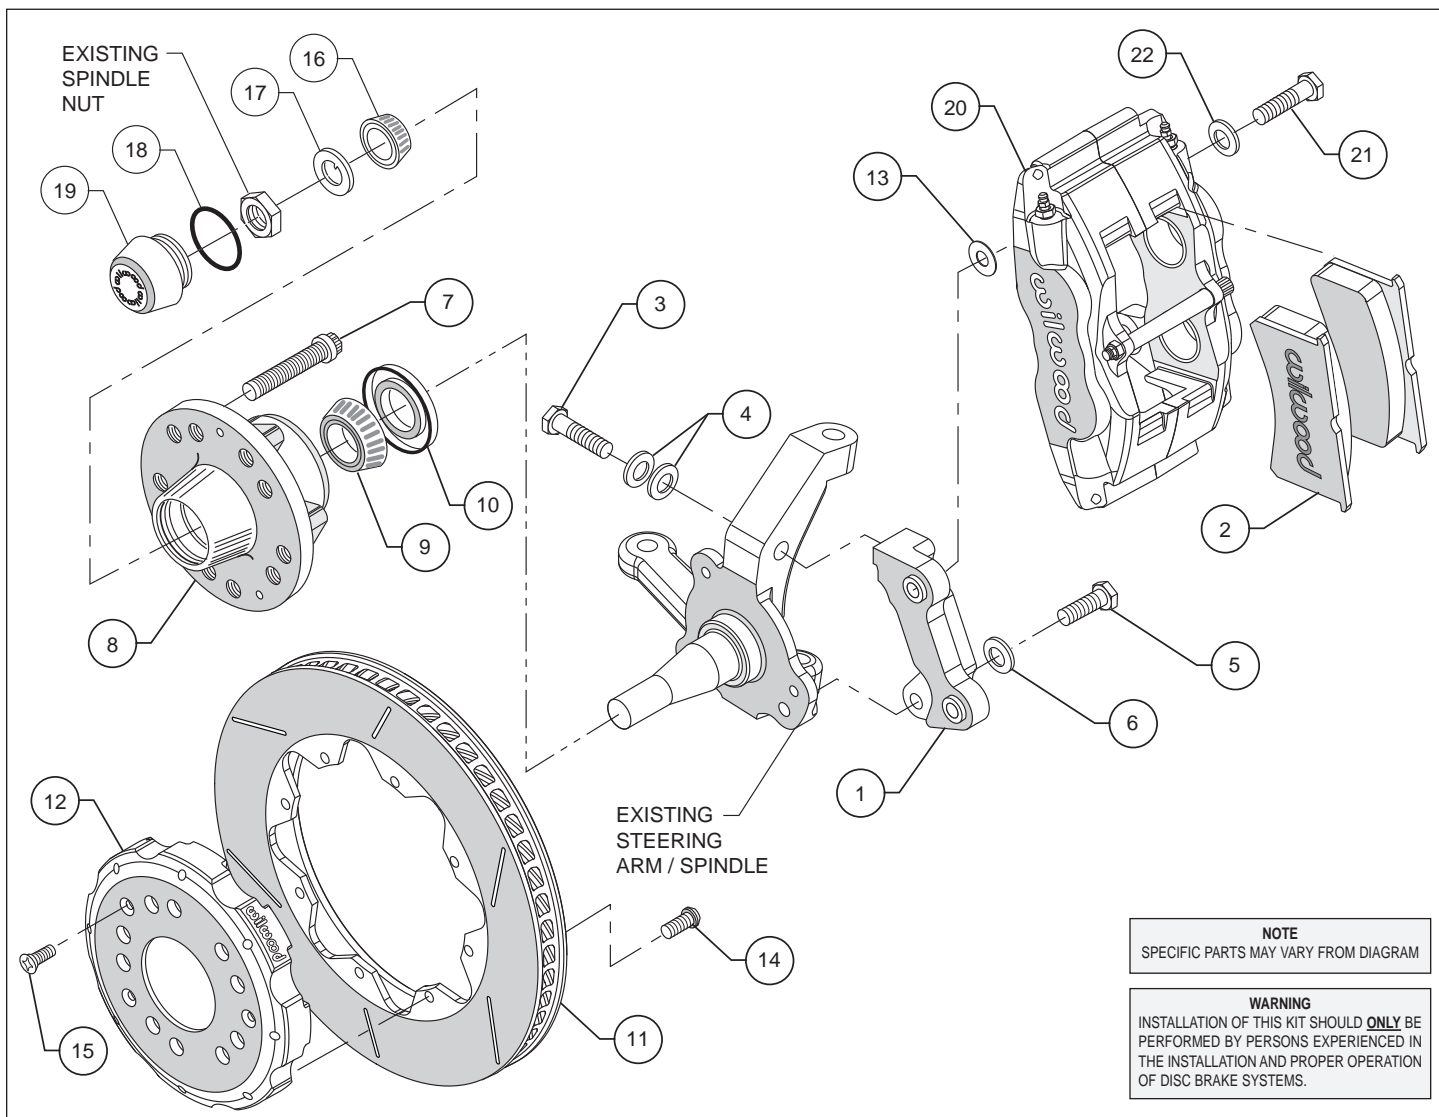
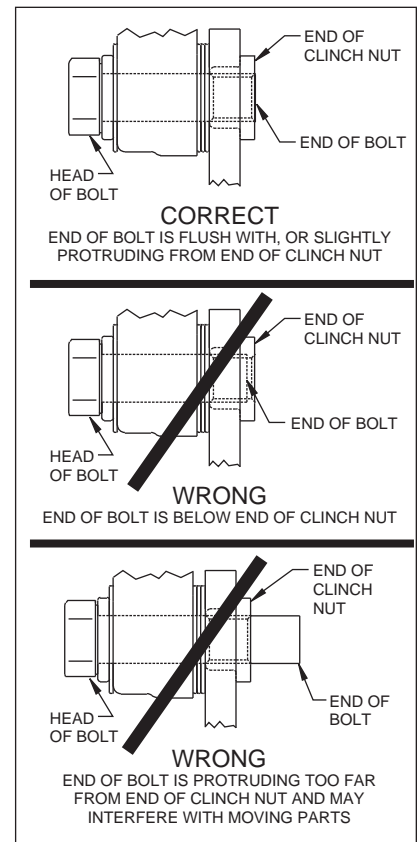

Figure 1. Typical Installation Configuration
Figure 3.
- The caliper mount bracket assembly (1) should be installed first with clean, dry threads on the mounting bolts. Install the bracket by sliding bolt (3) through two washers (4) from the side through the spindle support and into the top of the caliper mounting bracket (1), as shown in Figure 1. Slide bolt (5) through washer (6) from a 90° degree angle thru the mounting bracket and into the lower portion of the steering arm, Figure 1. The bracket must tighten squarely against the outboard side of the caliper mount bosses on the spindle body. Inspect for interference from casting irregularities, machining ridges, burrs, etc. Later, after the caliper, pad, and rotor alignment has been checked, and any necessary shims have been put in place, the mount bolts should be coated with red *Loctite*® 271 and bolt (3) torqued to 65 ft-lbs and bolt (5) torques to 42 ft-lbs.
- Install wheel studs (7) into the hub (8). Torque to 77 ft-lb. **NOTE:** There are two (2) five lug patterns in the hub (5 x 4.50 and 5 x 4.75). Make sure of the correct hole pattern for the correct wheel application before installing studs into hub. You must use the 5 x 4.50 pattern for this application.
- Pack the large inner bearing cone (9) with high temperature disc brake bearing grease (available from your local auto parts store) and install into the backside of the hub (8).
- Install the grease seal (10) by pressing into the backside of the hub (8).
- Pack the small outer bearing cone (16) with high temperature disc brake bearing grease and install into front of hub (8). Slide the hub assembly (7, 8, 9, 10 and 16) onto the spindle. Secure using spindle washer (17), stock adjusting nut and nut locking device. Adjust wheel bearing pre-load per Original Equipment manufacturer (OEM) specifications.
- Install the o-ring (18) on the dust cap (19), and screw dust cap assembly onto the hub (8). Friction created by the o-ring (18) on the dust cap (19) keeps it from unscrewing.
- With the larger I.D. side of the rotor (11) facing away from the hat (12), attach rotor (11) to hat (12) using bolts (14), as shown in Figure 1 (finger tighten). Using an alternating sequence, remove bolts (14) one at a time, apply red *Loctite*® 271 to the threads and torque to 25 ft-lb.
- Slide the rotor/hat assembly over the studs (7) being sure to utilize the larger stud hole size (.516) bolt circle pattern of the hat (12) onto the hub (8) while taking care to align the small countersunk holes in the hat (12) with the small threaded holes in the hub (8). Install three flat head socket head screws (15) through the small holes in the hat (12) and torque to 85 in-lb.
- NOTE:** Please reference the caution statement at the beginning of the assembly instructions. With the bleed screws pointing up, mount the caliper (20) onto the caliper bracket (1) using washers (22), and bolts (21), as shown in Figure 1. Initially place two .030 thick shims (13) between the caliper and the bracket. Temporarily tighten the mounting bolts and view the rotor (11) through the top opening of the caliper. The rotor should be centered in the caliper. If not, adjust by adding or subtracting shims (13) between the bracket and the caliper. Always use the same amount of shims on each of the two mounting bolts. **NOTE:** The end of each bolt must be flush with, or slightly protruding from, the head of the clinch nut in the bracket. If necessary, place spare shims between washer and caliper mounting ear to achieve the proper clinch nut engagement, as shown in Figure 3. Once the caliper alignment and clinch nut engagement are correct, remove the bolts one at a time, apply red *Loctite*® 271 to threads and torque to 70 ft-lb.
- Remove the caliper bridge spacer and bolt. Install the disc brake pads (2), then reinstall the caliper bridge spacer and bolt.